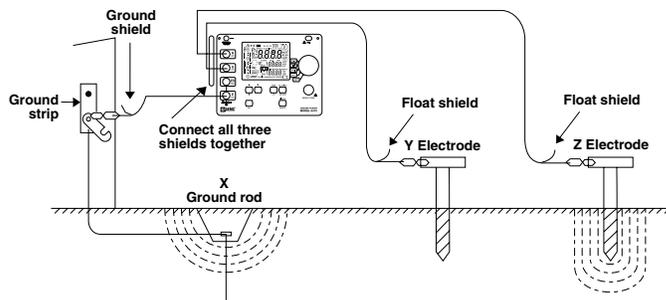

Figure 25
**C)** If a satisfactory low voltage value is still not obtained, the use of shielded cables may be required. The shield acts to protect the inner conductor by capturing the voltage and draining it to ground. (Figure 25)